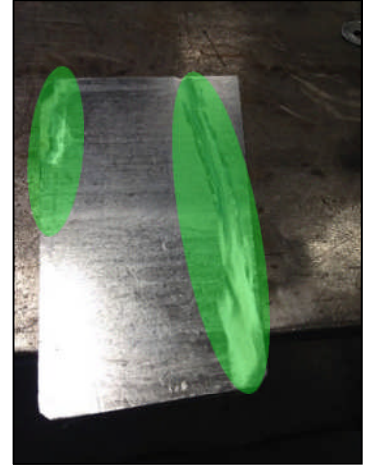

Figure 16
Step 15: Prepping the Top Cap for installation. (Fig. 16)